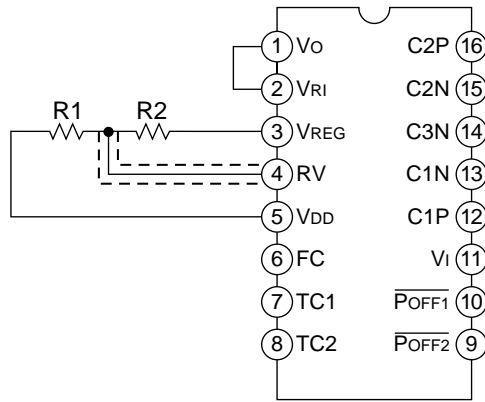

Figure 2.5 VREG setup and mounting notes
The voltage regulator circuit regulates a voltage entered in the V_{RI} pin and can output any voltage. It uses the series voltage regulation. As shown in Figure 2.5, the V_{RI} and V_O pins must be short-circuited by a jumper as short as possible except for larger time boosting by using external diodes.
- The regulation voltage adjustment input (pin RV) has the very high input impedance, and its noise insertion can drop the regulator stability. As shown in Figure 2.5, shield the cable between the division resistor and RV pin or use a cable as short as possible between them.